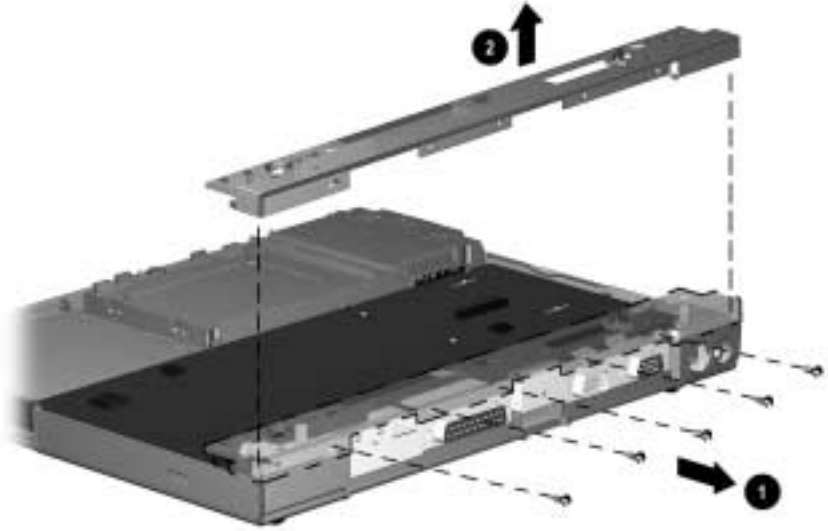

Figure 5-30. *Removing the Speaker Housing*
6. Remove the five screws securing the speaker housing to the base assembly ❶ (Figure 5-30).
7. Remove the speaker housing ❷.